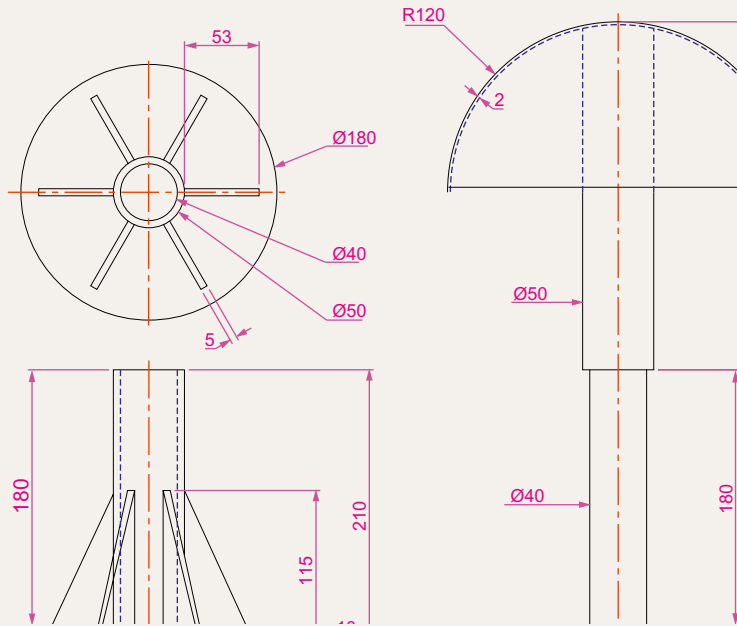

Fig. 14.38 Exercise 3 – orthographic projections
3. Working to the dimensions given in the two orthographic projections (Fig. 14.38), and working on two layers of different colours, construct an assembled 3D model of the one part inside the other.